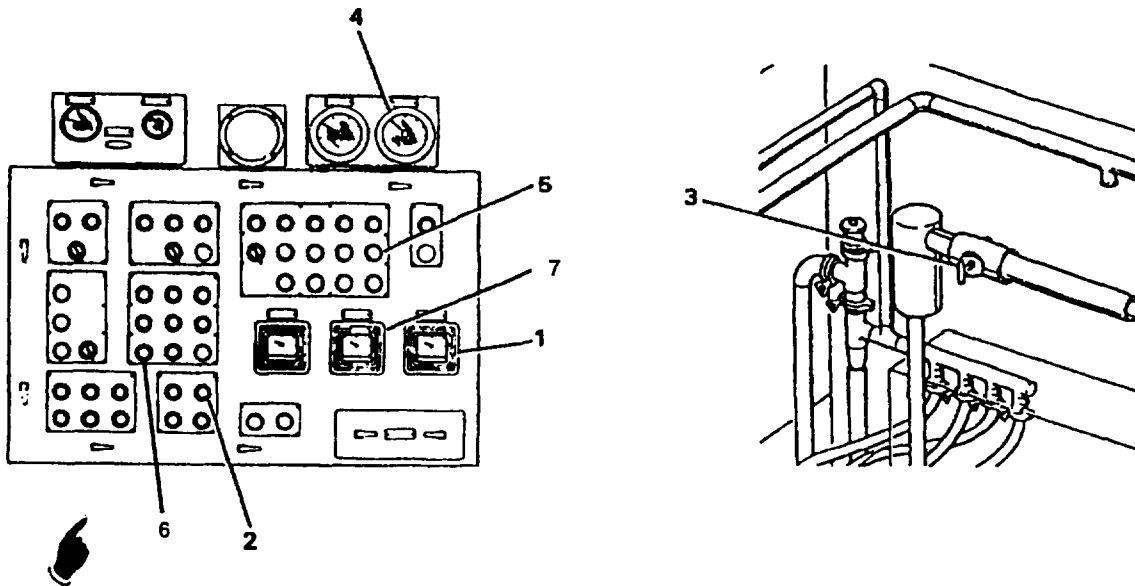

Figure 2-44. High Pressure Pump Readiness
(3) High Pressure Pump Start-Up (Figure 2-44).